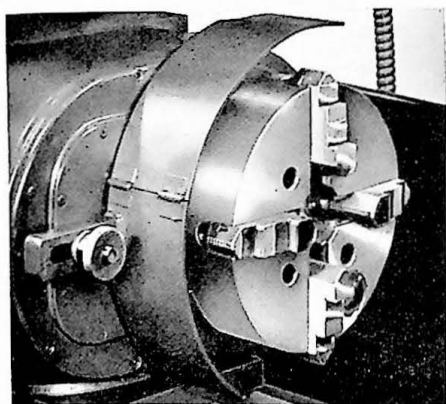
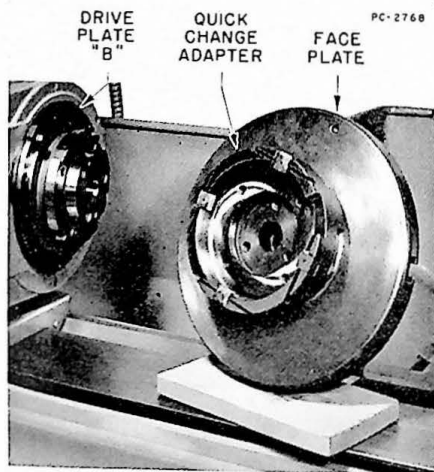

Figure 32A
Figure 32B
Either the face plate or chuck (standard equipment for the headstock) may be mounted directly on the spindle or on an intermediate adapter and then on the spindle nose. The face plate (Figure 32B) is designed for mounting fixtures used for either internal or external grinding. The chuck (Figure 32A) may be used not only for internal grinding, but also for external grinding work not easily held between centers.
The adapter (Figure 32B—extra equipment) may be used not only in conjunction with the face plate and chuck, but also for mounting special grinding fixtures which are not conveniently mounted on the face plate. It also permits the removal of work and chuck (or face plate) as a unit, for inspection or other reasons.
2. In drive plate "B" (Figure 32B) you will notice a key which engages in a slot in the spindle. To engage the key, push it forward and lock in position with the screw provided.